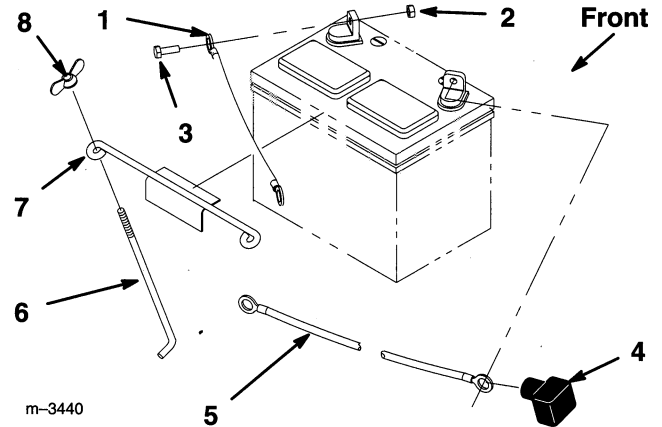

Figure 36
3. Disconnect the negative (black) ground cable from the battery post (Fig. 36).
4. Lift the red rubber cover up on the positive cable. Disconnect the positive cable (red cover) from the battery post (Fig. 36).
5. Remove the battery hold down rods (Fig. 36). Lift battery from tractor
6. Install the battery into the chassis (Fig. 36).
7. Secure battery in chassis with hold down rods and wing nuts (Fig. 36).
8. Using the bolt and locknut, connect the positive (red cover) cable to the positive (+) battery post (Fig. 36). Slide the rubber cover over the battery post.
9. Using the bolt and locknut, connect the negative (black) cable to the negative (-) battery post (Fig. 36).